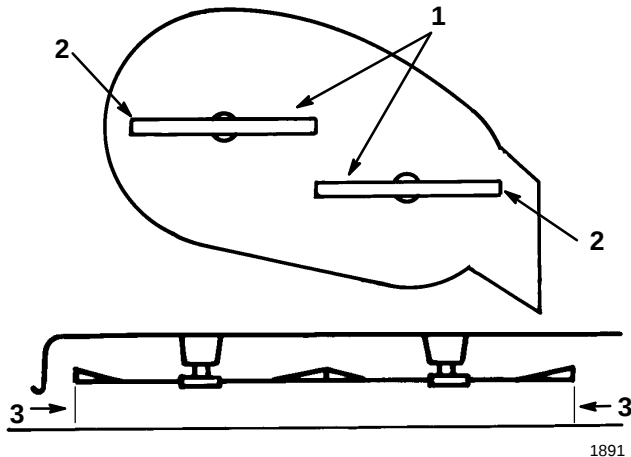

Figure 49
4. Carefully rotate blade(s) side to side (Fig. 49). Measure between the outside cutting edges and the flat surface (Fig. 49). If both measurements are not within $3/16"$ (4.8 mm), an adjustment is required; refer to steps 5 and 6.